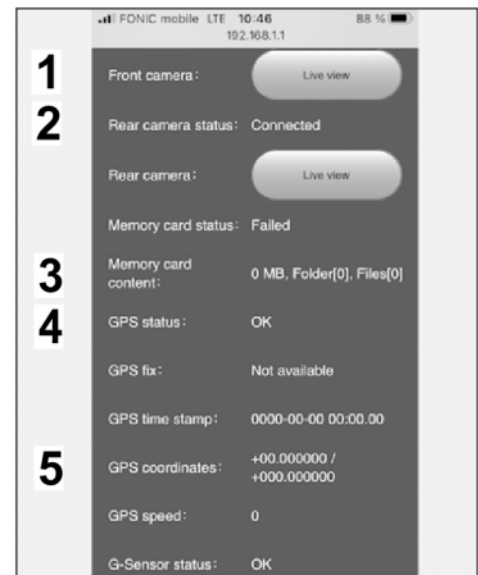

Figure 27
6.2 Display of live images from front camera, connection status, memory card status, GPS and radar status and more (⇒ *Figure 27*).